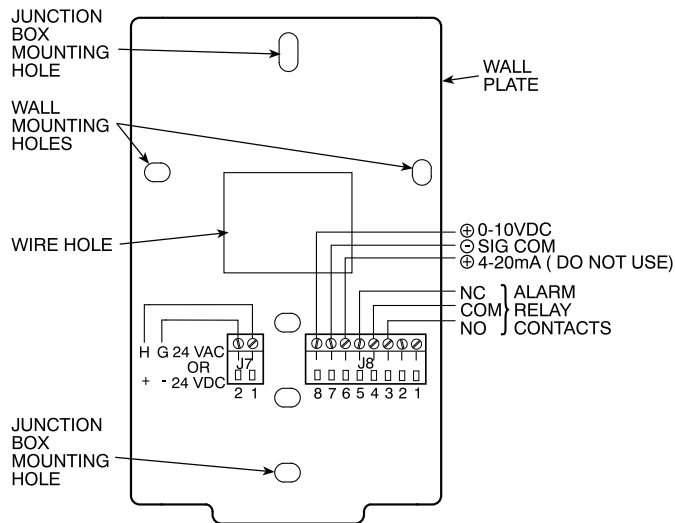

Fig. 5 — CO₂ Sensor Wiring Diagram
5. A two-wire cable is required to wire the dedicated power supply for the sensor. The two wires should be connected to the power supply and terminals 1 and 2. (See Fig. 5 and Table 2.)
10. Route the wires through the patch plate on the EconoMiSer IV. Wire the harness to the sensor. See Fig. 5 and Table 2 for wiring information.